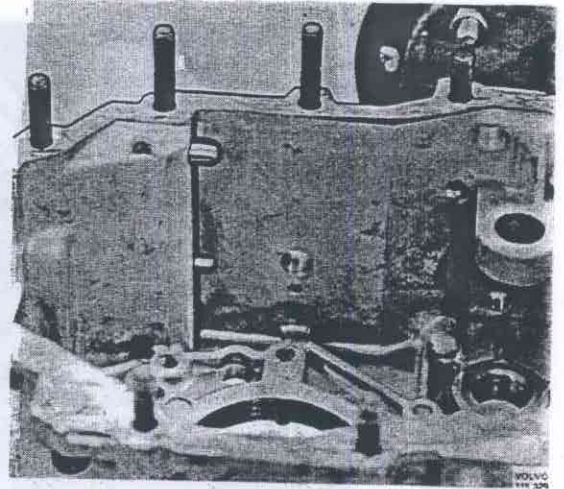

Fig. 43-67. Lock pin
27. Remove the lock pins and the springs, Fig. 43-67, for the selector forks. Remove the housing half from the fixture.